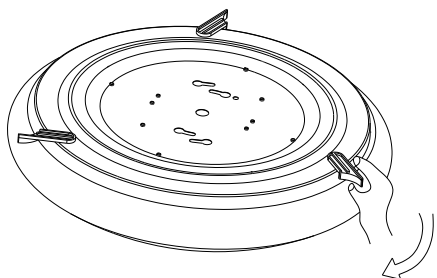

Fig. 1
2. Open the 3 diffuser latches (figure 1).